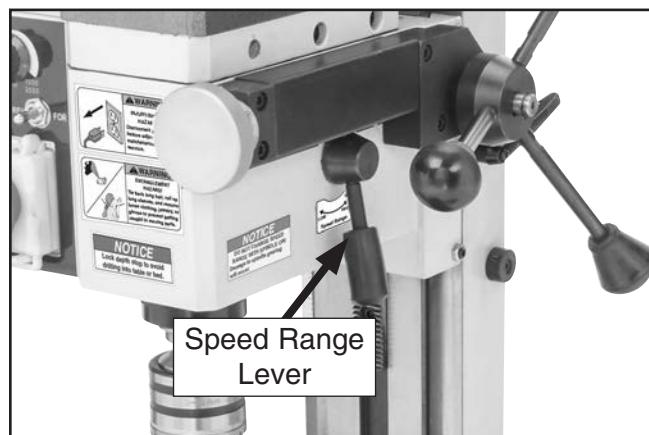

Figure 13. Speed range lever location.
2. Rotate speed range lever (see **Figure 13**) to either "**LOW**" (spindle speeds 50–1000 RPM) or "**HIGH**" (spindle speeds 100–2000 RPM).